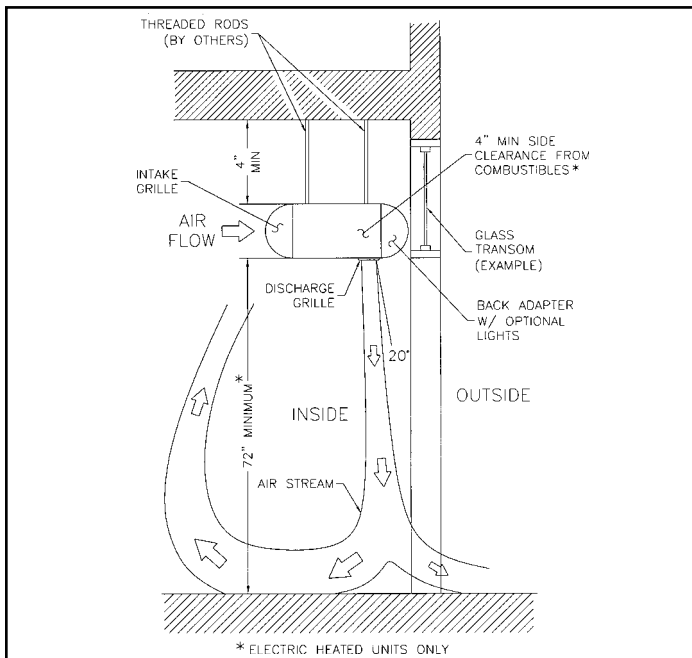

FIGURE 3 - Suspension Mount with Back Adapter
### B. WITH BACK ADAPTER: Figures 3 & 4
- The unit may be mounted with the louvered discharge grille facing toward the door opening, or the interior of the building (electric heated models only). **See Figures 3 and 4.**
2. **Figure 3** installation (louvered discharge grille facing interior of the building). Follow instructions A & B above.